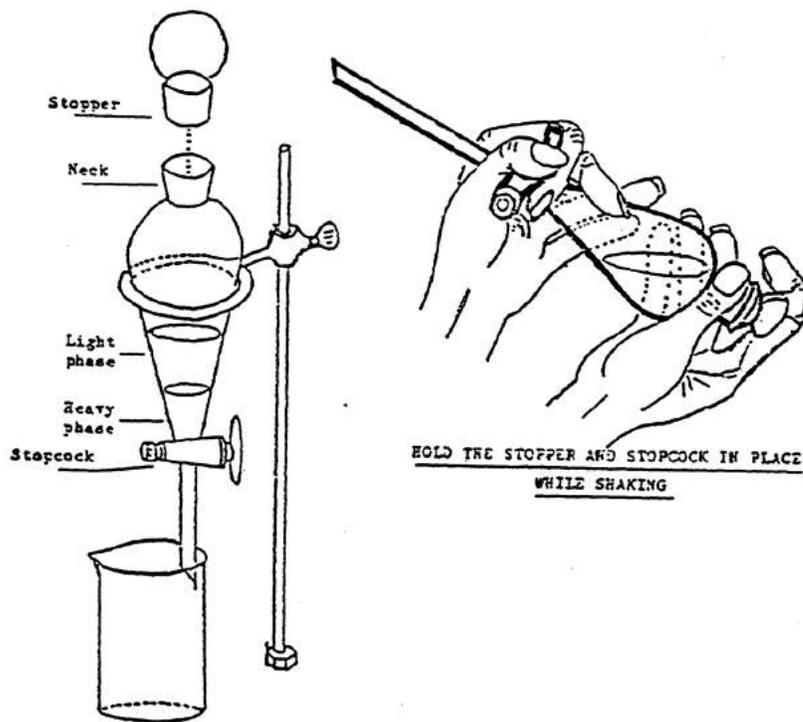

Figure 5.2. Use of a separatory funnel
2. Transfer the solution to a separatory funnel that is supported by an iron ring attached to a retort stand (see Figure 5.2) and add 20 mL of 5% sodium hydroxide solution. Stopper the funnel and shake it vigorously several times, cautiously releasing the pressure by opening the stopcock (see *The Organic Chem Lab Survival Manual*, Chapter 11 or Chapter 15 in 3rd ed.).